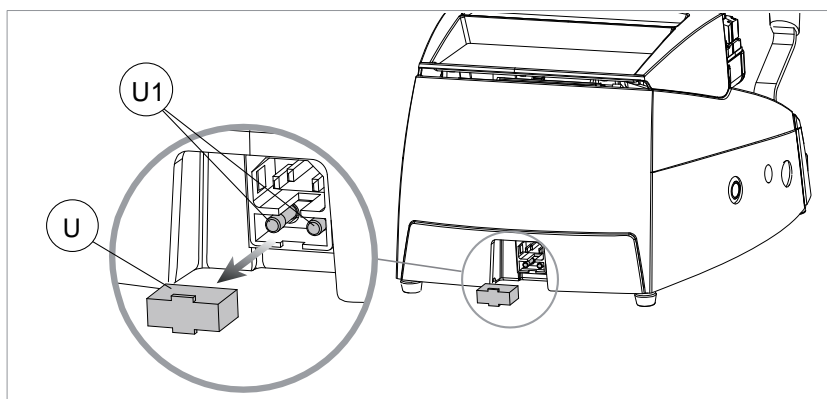

Fig. 43
- 1) Remove the fuses box (U) from the key-cutting machine socket (Fig. 43).